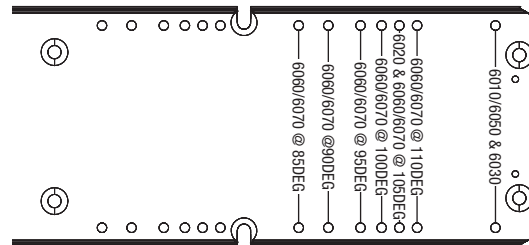
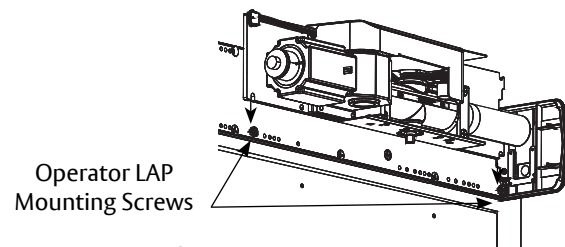

Figure 10
Figure 11 Left Hand LAP shown
1. With backplates mounted to frame, use text to locate holes along bottom of backplates that correspond to your specific closer installation. (Figure 10)
2. Insert two (2) 1/4-20 x 1/2" Phillips pan head screws on each backplate into appropriate engraved locations. Leave a 5/16" minimum gap between backplate and underside of screw head.
3. On each backplate, orient LAP so spring tube of closer is pointed toward closest hinge edge of frame. Slide each LAP over two (2) screws and tighten. (Figure 11)
NOTE: When properly oriented, spring tube is at bottom on left hand backplate (Figure 11) and at top on right hand backplate.